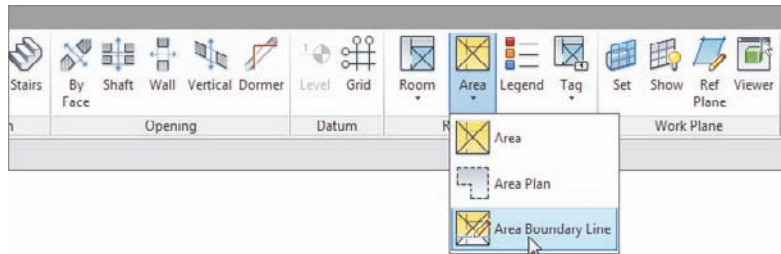

FIGURE 15.25 Choosing the Area Boundary Line
5. On the Room & Area panel, select Area, and click the Area Boundary Line button, as shown in Figure 15.25.